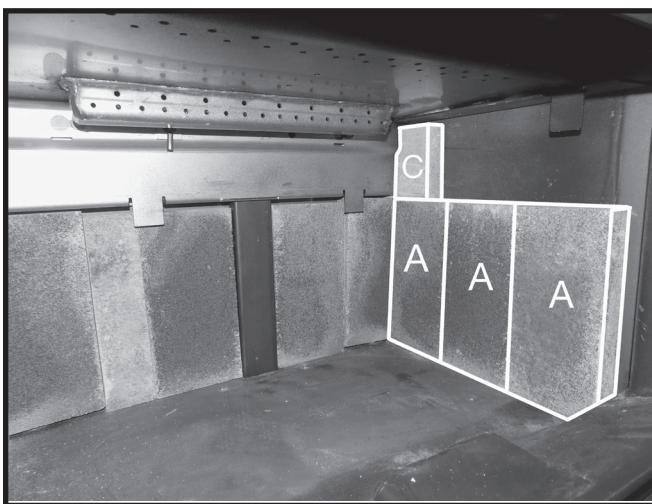

Figure 17: Right side wall A and C brick placement.
3. On one of the side walls, stand three "A" bricks vertically and push them back so that they make contact with the "A" bricks on the rear wall. Then place a "C" brick on top of an "A" brick (Figure 17).